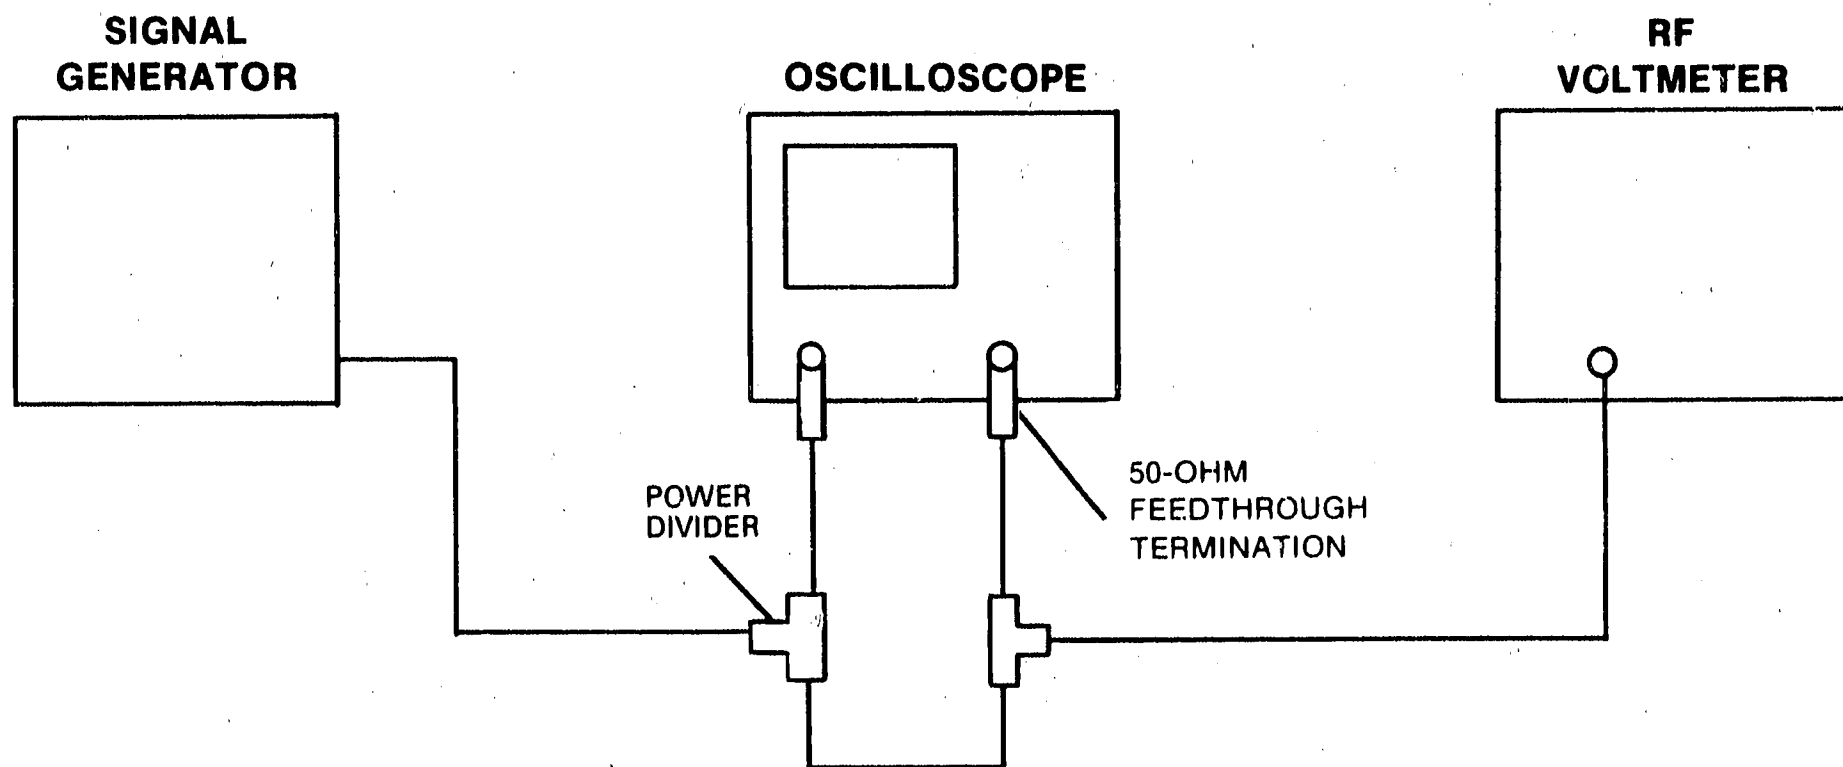

Figure 4-4. External Triggering Test Setup
- a. Connect equipment as shown in figure 4-4.